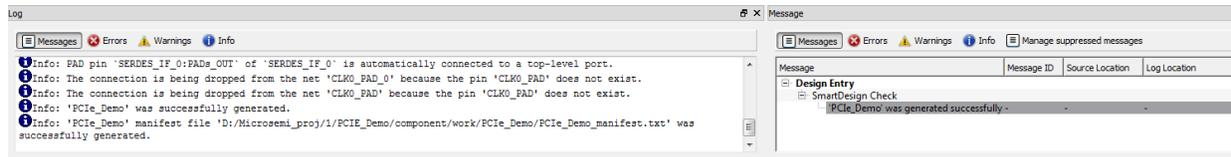

Figure 36 • Log Window
35. The message PCIe_Demo_top was generated is displayed in the Libero SoC Log window if the design is generated without any errors. The Log window is displayed as shown in Figure 36 on successful component generation.